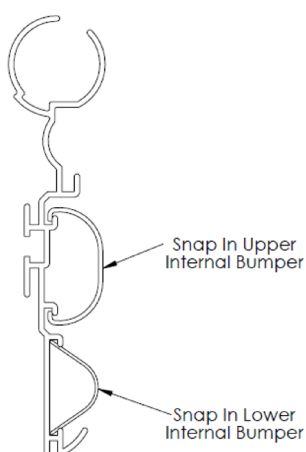

FIGURE 7
- A minimum of 4" from the end of the retainer splices to avoid interference with splice hardware (**FIGURE 7**)
When splicing is required always locate the splice joints a minimum of 4" from mounting bracket locations. For additional splicing detail, see **FIGURE 7**. Offset the butt joint in the cover, handrail grip, accent strip, aluminum retainer, and impact cushion (See **TYPICAL ASSEMBLY**, page 1).